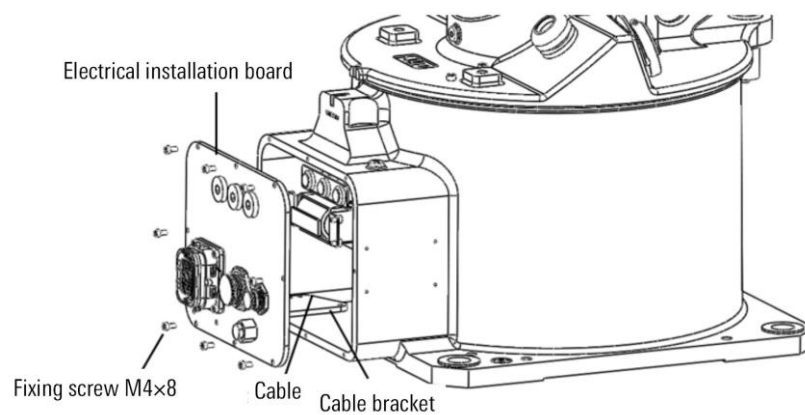

Figure 12-2 Internal cables of the base
- Step1. Remove the electrical installation plate, as shown in Figure 12-2, and pull out the cables inside the base.
Step8. Install the cable into the base in the direction shown in Figure 12-2, forming a "U" shape inside the base.